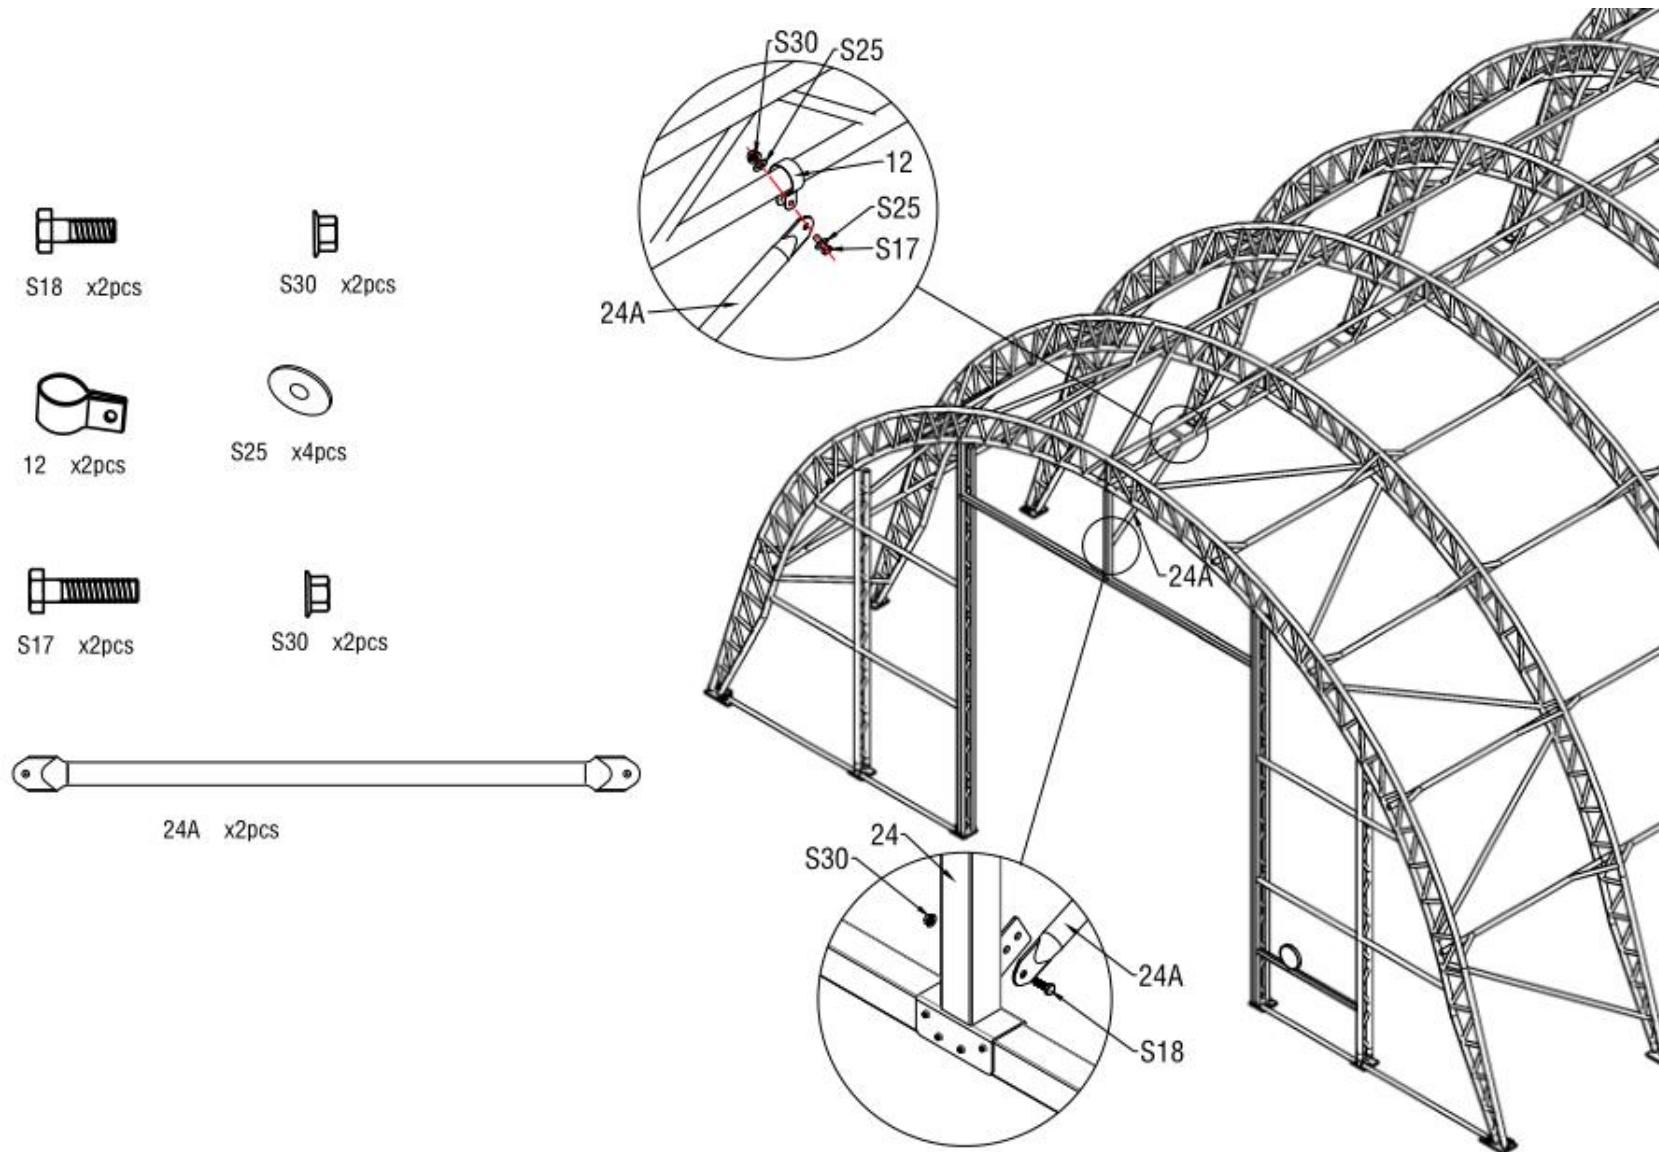

Figure 15
2. Fix clips (No.12) on Double Trussed Purlins (No.8) and install the Diagonal Support Tube For door beam (No.24A) on clips as figure 15 shows. Please connect the Diagonal Support Tube For door beam (No.24A) between door frame and Double Trussed Purlins (No.8) by using Screw M10x30 (No.S18) and Screw M10x50 (No.S17) with plain washer M10 (No.S25).